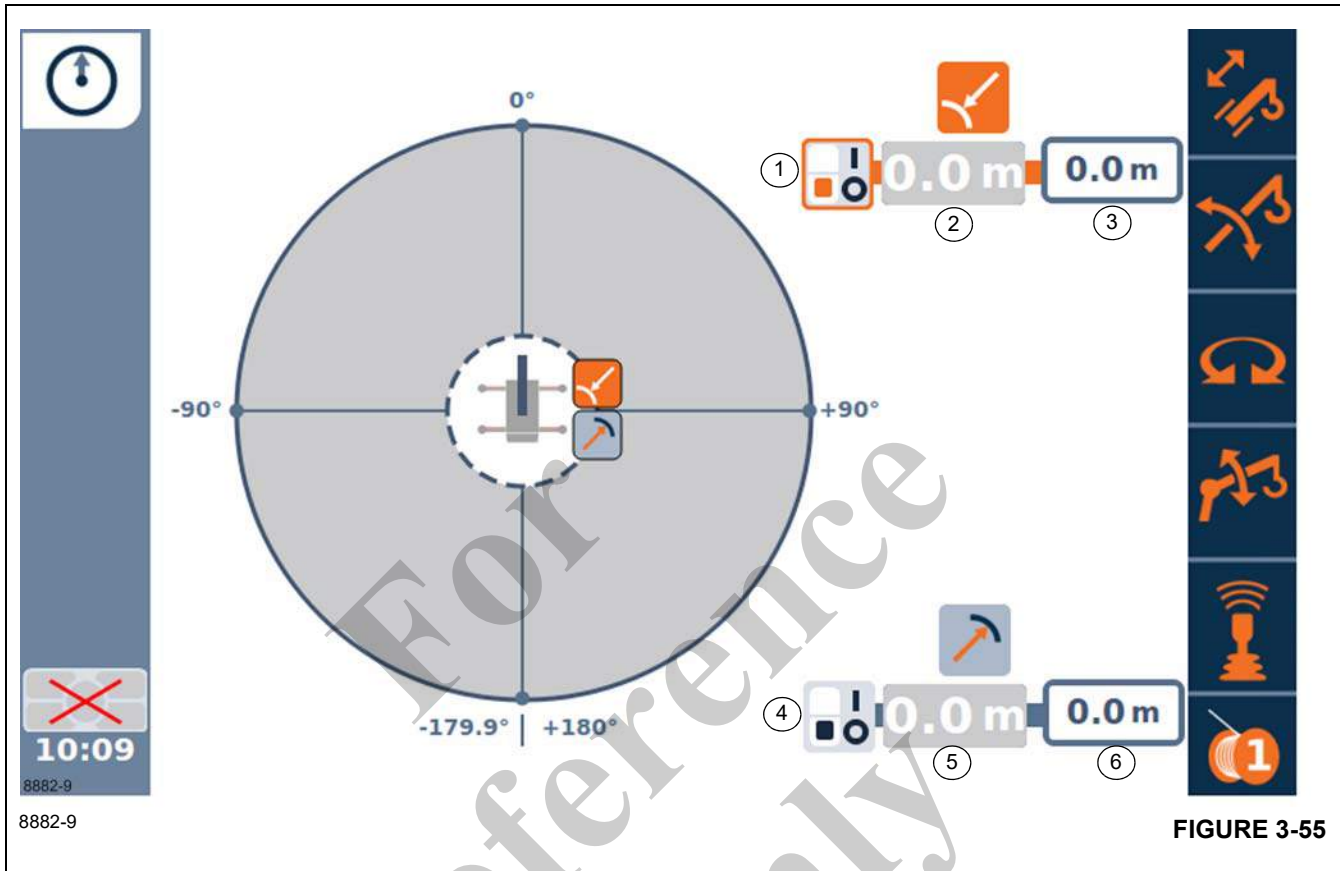

FIGURE 3-55
2. Select the Radius Limitation Screen ((Figure 3-55)) on the Main Menu Screen.
2. Select the Radius Limitation Screen (Figure 3-55) on the Main Menu Screen.
5. Use the Right Arrow function once to highlight the current outer radius (5). Use an OK button to accept the current crane position to be the Limitation Value. The Limitation Value should now be updated on the screen. Note that the boom is now at the limitation, so alarm will sound. The boom can now be moved away from the current radius to cease the alarm.
1. Select the Radius Limitation Screen (Figure 3-55) on the Main Menu Screen.